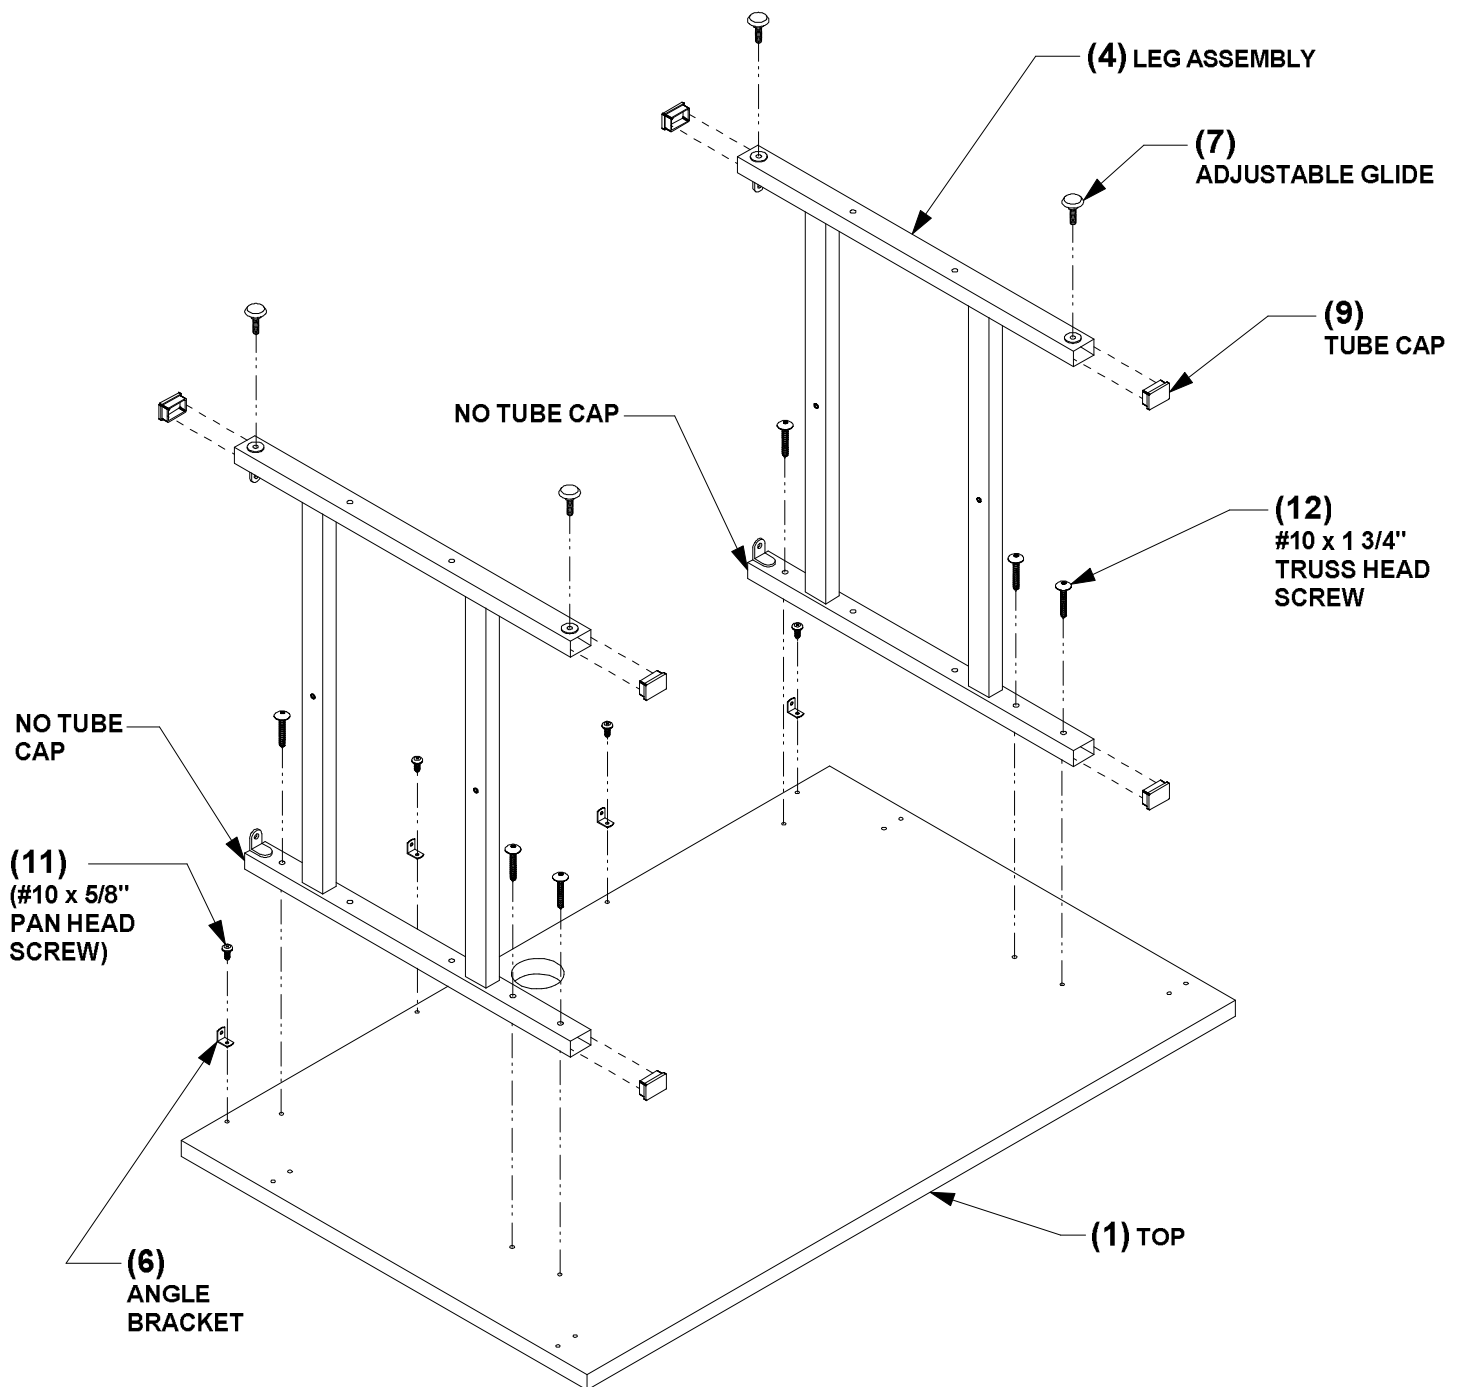

FIGURE 1
1. Insert tube caps (9) into leg assemblies (4) (Note: 3 tube caps per leg assembly). Thread adjustable glides (7) into leg assemblies (4). See figure 1.
2. Place top (1) on a cushioned surface with face side down. Attach angle brackets (6) to rear edge of top (1) using #10 x 5/8" pan head screws (11). Attach leg assemblies (4) to top (1) using #10 x 1 3/4" truss head screws (12). See figure 1.